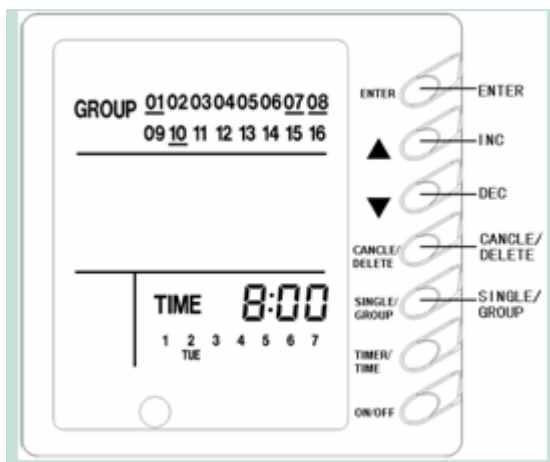

Fig.7.
2. Group control setting (fig.7)